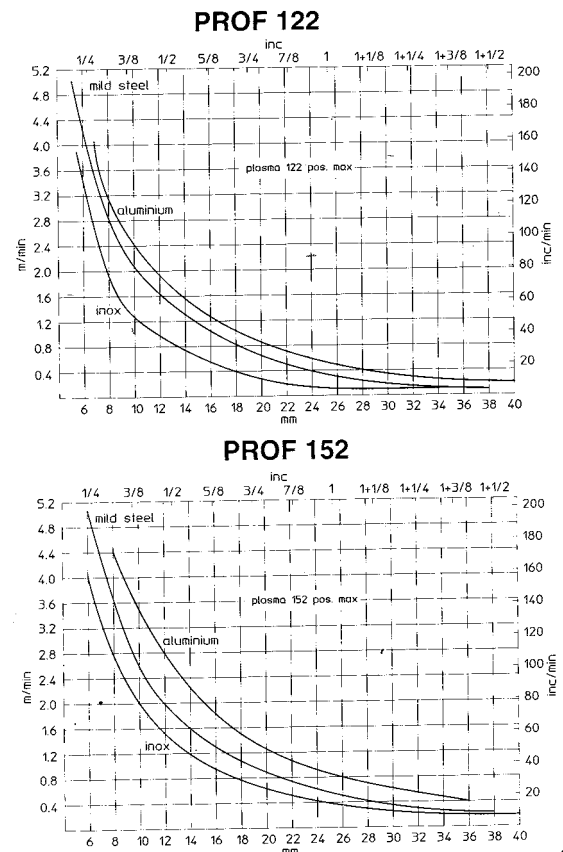

fig. 9
- Workpiece is too thick (see cutting speed and thickness diagram, fig. 9)